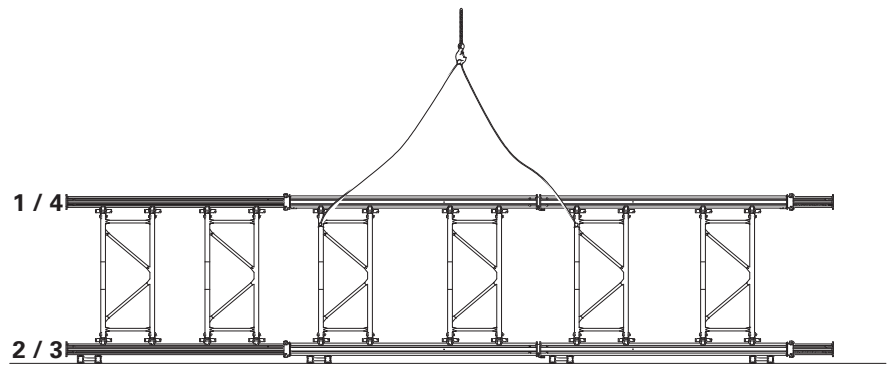

Fig. A3.09
→ The shorter Frame MP MRK (2) is at the top/bottom. (Fig. A3.09)